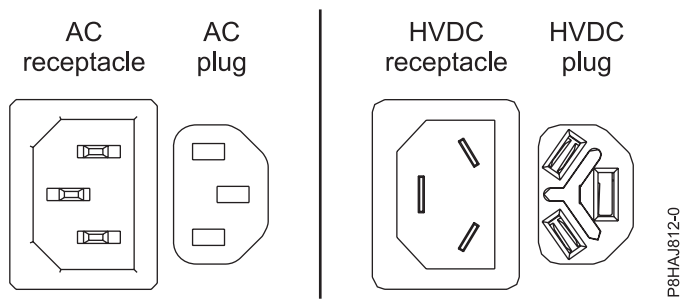
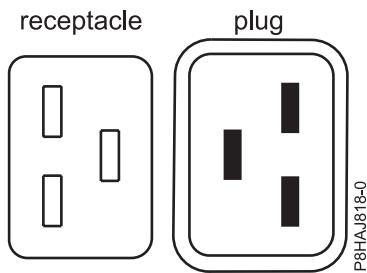
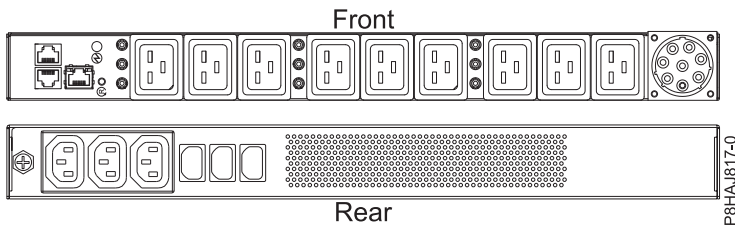

Figure 17. AC and HVDC connectors
Figure 18. Connectors for the 8408-44E system
Figure 19. PDU for the 8408-44E system
Figure 17 shows the supported alternate current (AC) and high voltage direct current (HVDC) connectors. Figure 18 and Figure 19 show the supported connectors and power distribution unit (PDU) for 8408-44E.